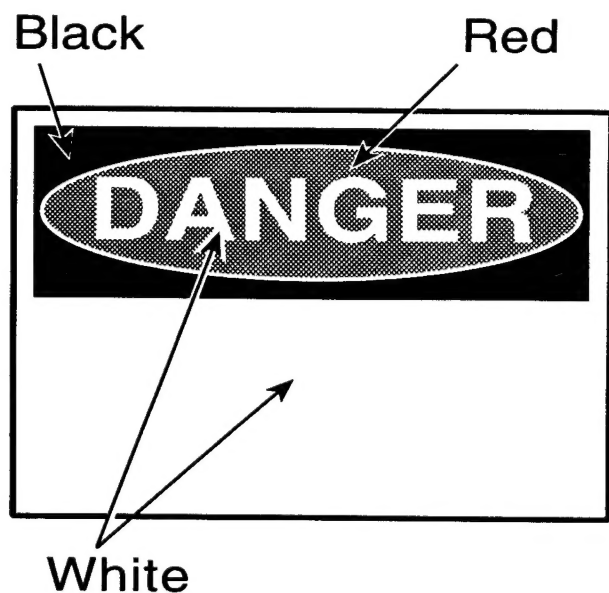

Figure 1. Example of danger sign
■ **Design.** Paints with phosphorescent or retroreflective content may be used when safety considerations justify the need for assuring visibility of signs in darkened areas or at night. Design danger signs as follows, and see example at figure 1 and on the front cover.